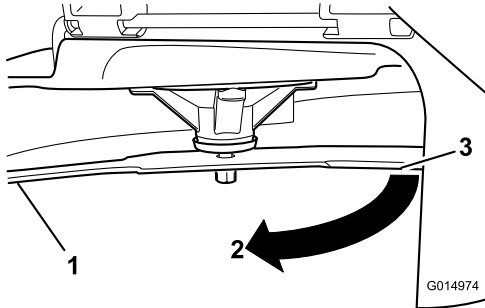

Figure 59
3. Second measured distance between blade and surface (B)
4. Rotate the same blade 180 degrees so that the opposing cutting edge is now in the same position (Figure 59).